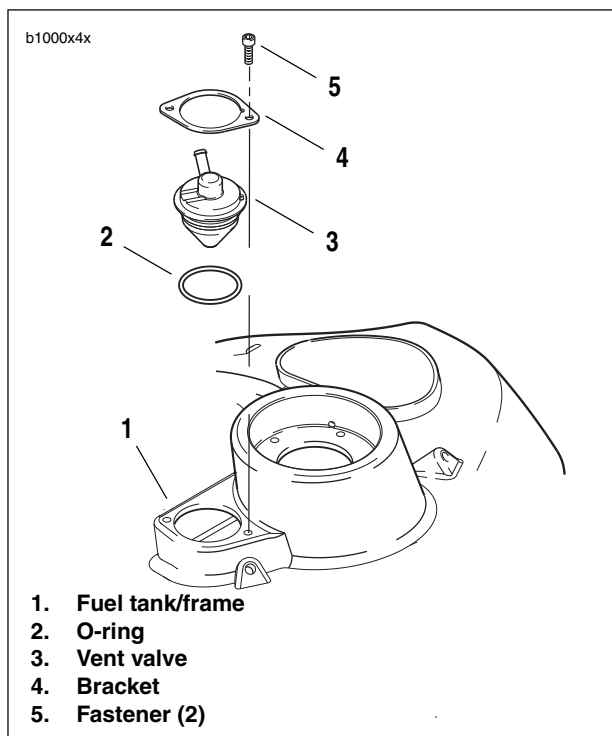

Figure 4-96. Fuel Tank Vent Valve
3. See Figure 4-96. Remove vent valve fasteners (5).
4. Remove bracket (4), vent valve (3) and o-ring (2) from fuel tank/frame (1).
1. See Figure 4-96. Install **new** vent valve o-ring (2).
2. Install vent valve (3) into fuel tank/frame. Vent valve nozzle should be at approximately the 7:00 position.
4. Loosely install vent valve fasteners (5).